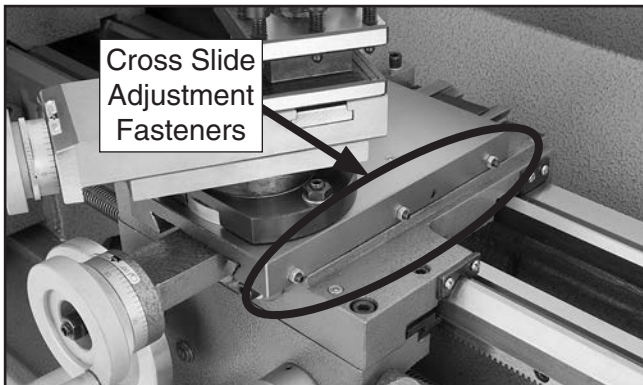

Figure 89. Cross slide gib adjustment hex nuts and set screws.
2. Loosen the three hex nuts on the side of the slide (see **Figures 89–90**).